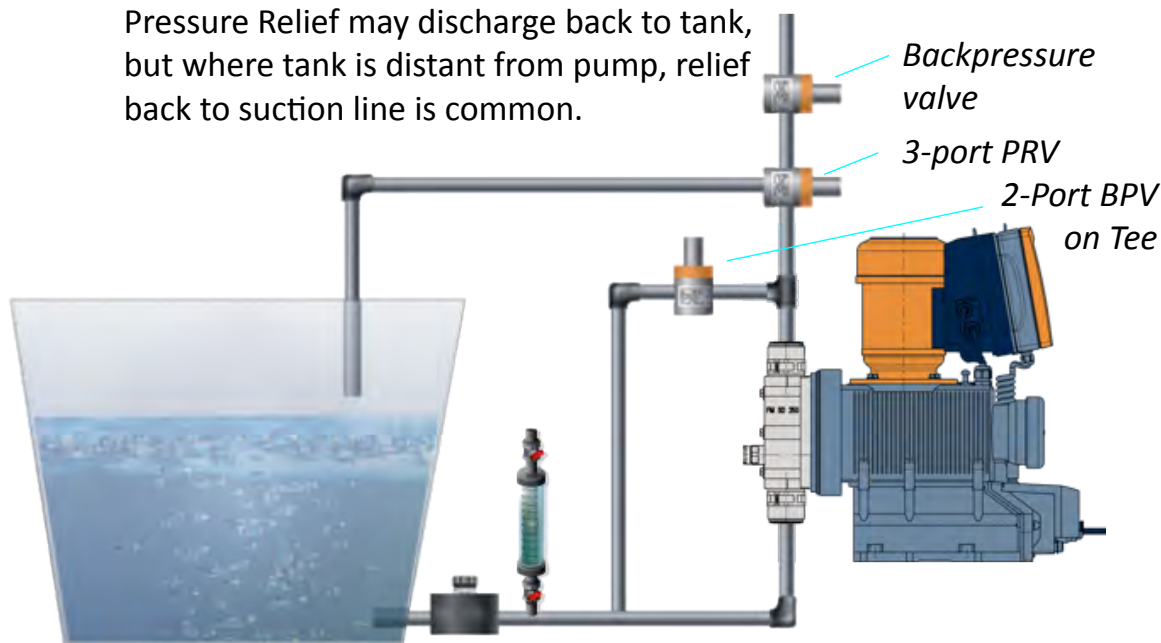

Figure 5 — Typical installation
- Stay with recommended tubing/pipe sizes or use larger diameters (Figure 5)